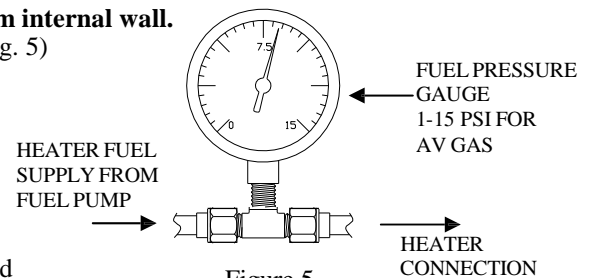

Figure 5
- B. Install the fuel pressure gauge (0-15). Tee into as shown. (Fig. 5)